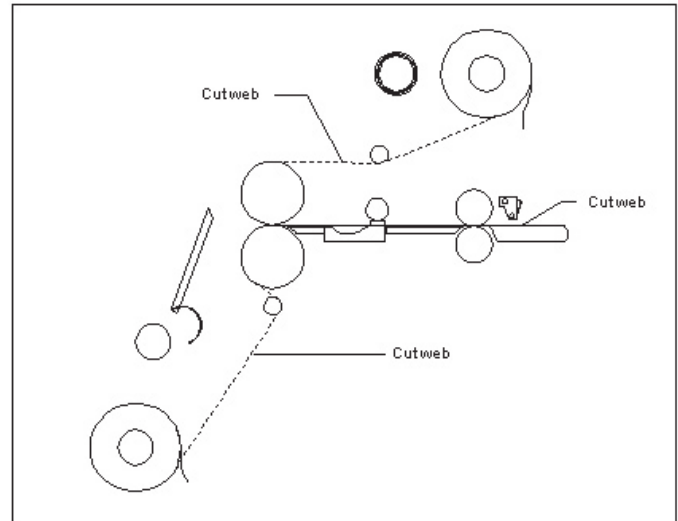

Fig 35
1. Using the rear slitter, cut the output from the web (Figure 35).
4. Cut remaining top and bottom film webs between supply rolls and heat rollers (Figure 35). **Be careful not to cut any of the rollers!**